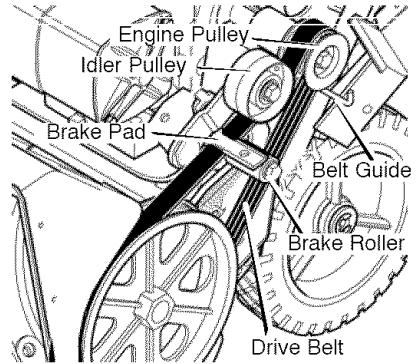

Figure 21
2. Remove the **drive belt** from the **idler pulley** (Figure 21).